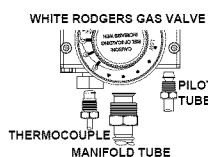

FIGURE 31.
6. Disconnect the thermocouple (right-hand thread), pilot tube, the igniter wire from the igniter button, the two connectors attached to the thermal switch, and manifold tube at the gas control valve/thermostat. (Figures 31 & 32.) **NOTE:** L.P. Gas systems use reverse (left-hand) threads on the manifold tube.
5. Disconnect the igniter wire from the igniter. NOTE: There are two types of igniters. If you have the square igniter, slide the igniter bracket backwards away from the gas valve to remove it. If you have the round igniter, first remove the igniter from the bracket by depressing front and rear holding tabs and lift. Next, remove the igniter bracket from the gas valve. Disconnect the thermocouple (right-hand threads), pilot tube, and manifold tube at the gas control valve/thermostat (Figure 31). NOTE: L.P. gas systems use reverse (left-hand) threads on the manifold tube. Also, disconnect the thermal switch wires.